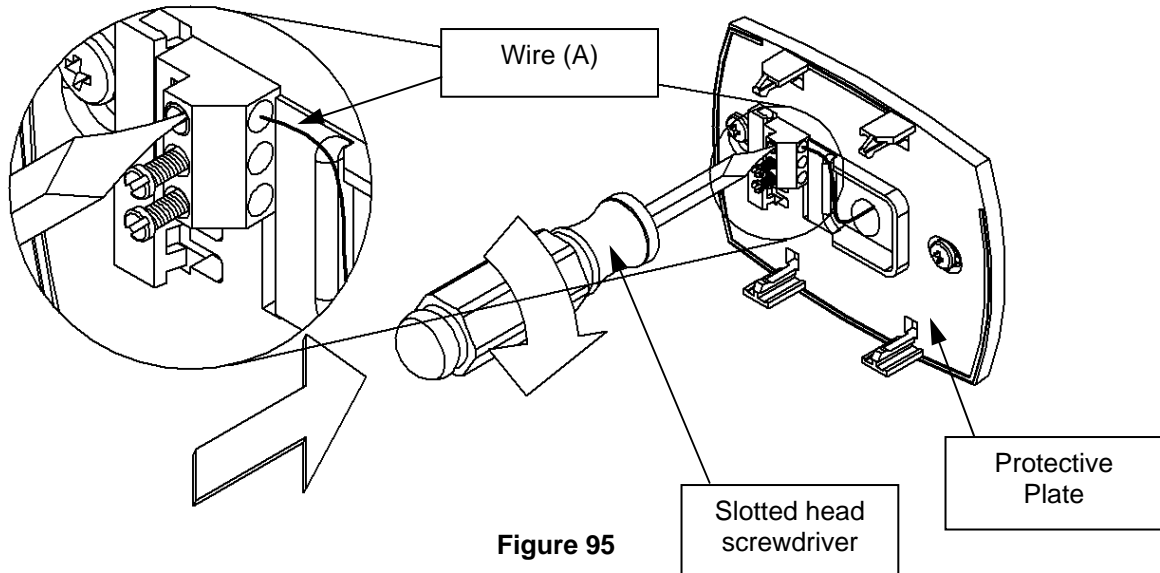

Figure 95
Step 15: Tighten the slotted screw in the top terminal location on the Protective Plate. This is shown in Figure 95.